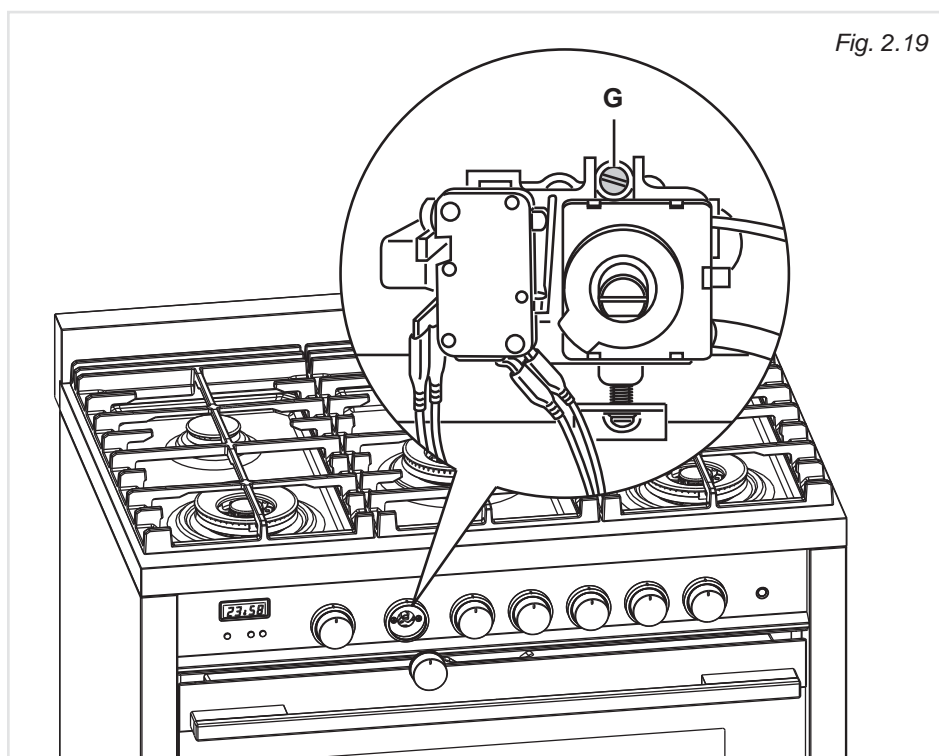

Fig. 2.19
- Remove the knob and unscrew the by-pass screw “G” (fig. 2.19) about three times by passing a small flat screwdriver (Ø 3 mm blade, 100 mm length) through the panel opening.
- After having removed the knob again and being very careful not to turn the thermostat stem, slowly screw the by-pass screws “G” (fig. 2.19) until you obtain a flame of 3-4 mm in height. The flame should not go out even when passing suddenly from maximum to minimum flame.